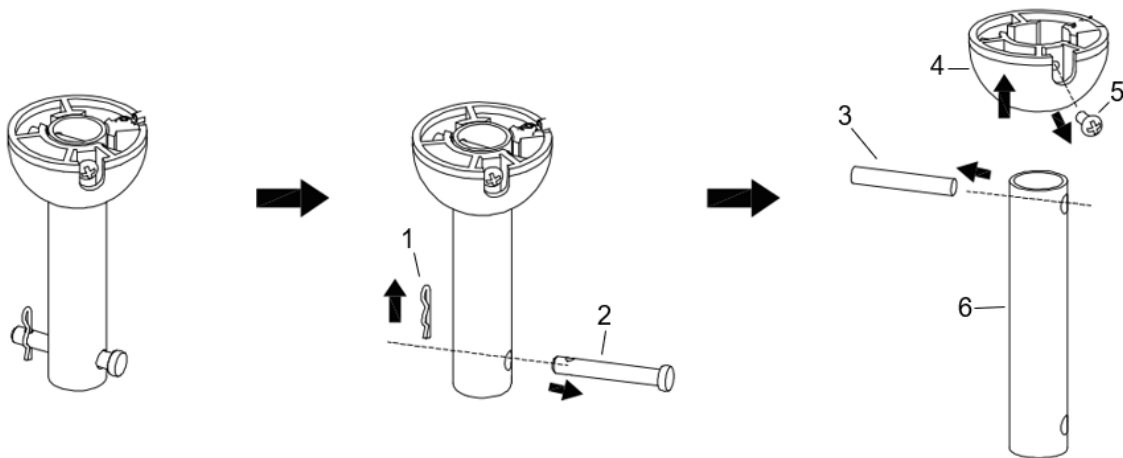

Fig. 4.1
1. Remove the ball joint (4) and dowel pin (3) by loosening the set screws (5) from the down rod (6). Remove the hitch pin (2) by removing the lock clip (1) (Fig. 4.1). **NOTE: Do not discard keep these parts, they are required to reassemble later.**